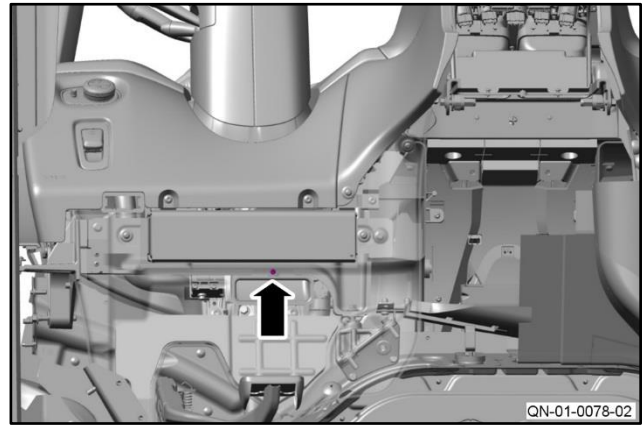

Figure 2
2. Remove the screw that attaches the lower duct to the IP (refer to Figure 2).